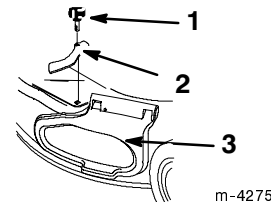

Figure 34
3. Remove the knob and the side cover clamp (Fig. 34).
4. Remove the knob and side cover clamp, then replace the knob in the hole and save the clamp for future use (Fig. 34).
5. Lift up on the side opening cover (Fig. 34).